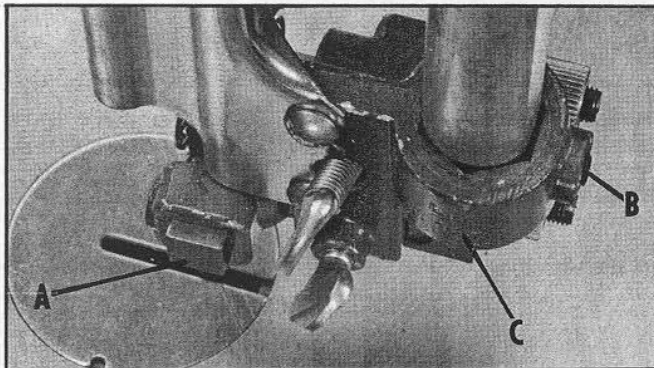

Fig. 16
The upper blade guide assembly should also be adjusted so that the blade guides (A) Fig. 16, are flat with the blade. If an adjustment is necessary, loosen screw (B) and rotate the complete guide assembly (C) until the blade guides are flat with the blade.